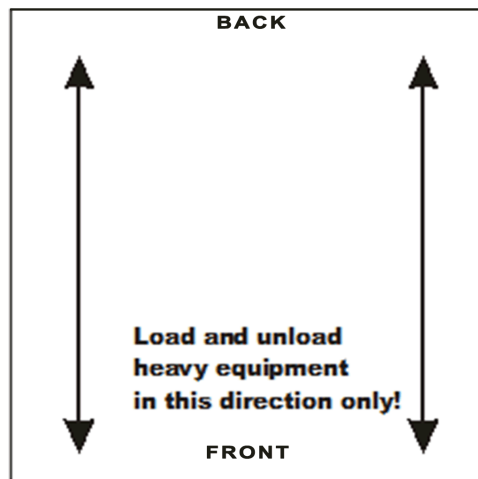

FIG. 5 - DIRECTION WHEN DRIVING HEAVY EQUIPMENT ON AND OFF THE SCALE
- When driving heavy equipment on and off the scale for weighing purposes, make sure that you drive onto and off of the platform in the direction indicated in Figure 5. Also See Access Ramp Installation Section.